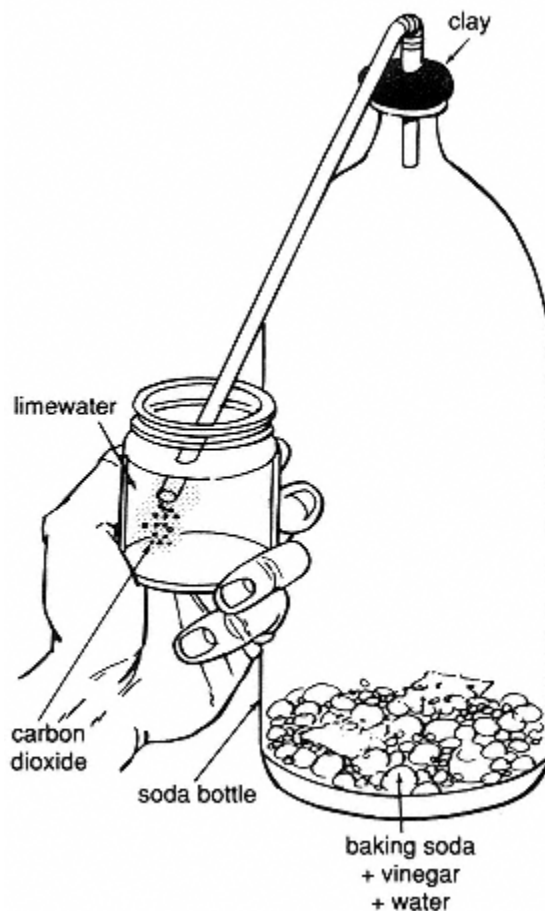

Figure 27.1
9. Hold the jar of limewater near the bottle so that the other end of the straw is beneath the surface of the limewater. (See Figure 27.1).